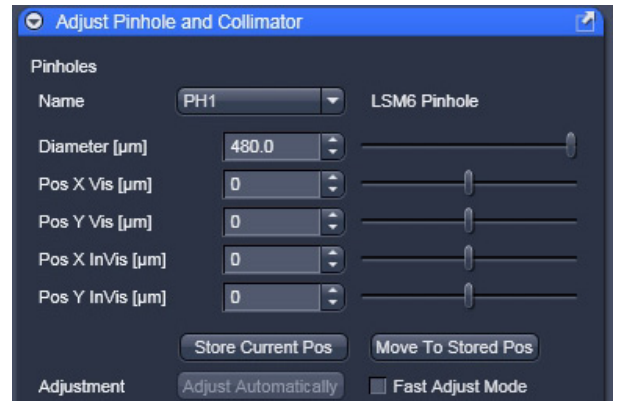

Fig. 5-117 Manual pinhole adjustment
- Click the LSM **Continuous** action button to start a continuous scan. Optimize the pinhole position in X, Y and Z (Z only for PH1) relative to the PMT using the **Position X [µm]**, **Position Y [µm]** and **Position Z [µm]** sliders to maximum image brightness (see Fig. 5-117).